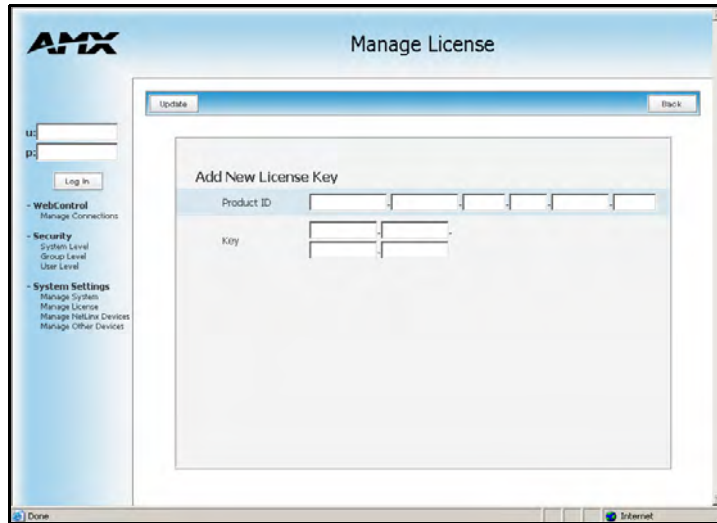

FIG. 65 System Settings - Add New License Key page
2. Click the **New** button to be transferred to the Add new License Key page (FIG. 65).